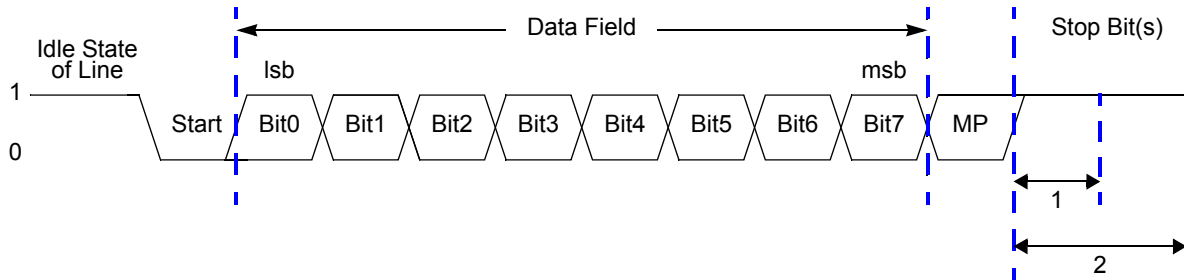

Figure 27. LIN-UART Asynchronous MULTIPROCESSOR Mode Data Format
The LIN-UART features a MULTIPROCESSOR (9-bit) mode which uses an extra (9th) bit for selective communication when a number of processors share a common UART bus. In MULTIPROCESSOR mode (also referred to as 9-Bit mode), the multiprocessor bit (MP) is transmitted immediately following the 8 bits of data and immediately preceding the Stop bit(s) as illustrated in Figure 27 on page 142.